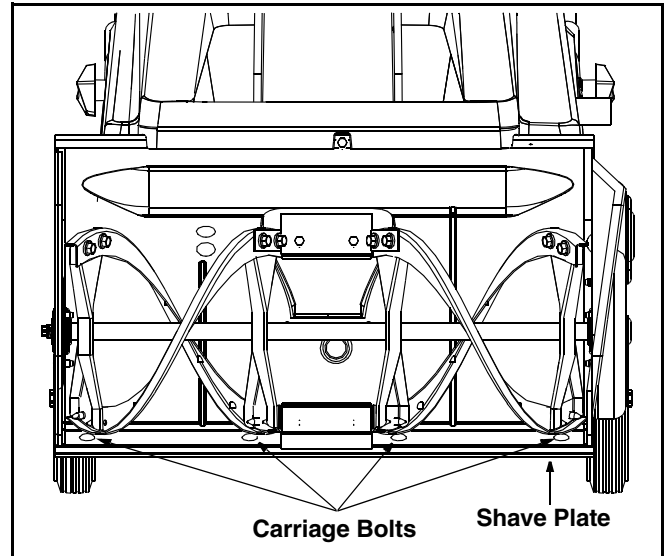

Figure 4
- To adjust, tip the snow thrower back so that it rests on the handle. Loosen the lock nuts from the carriage bolts which secure the shave plate to the housing. See Figure 4.
- Remove the four carriage bolts and hex lock nuts which secure it to the snow thrower's auger housing. Refer to Figure 4.